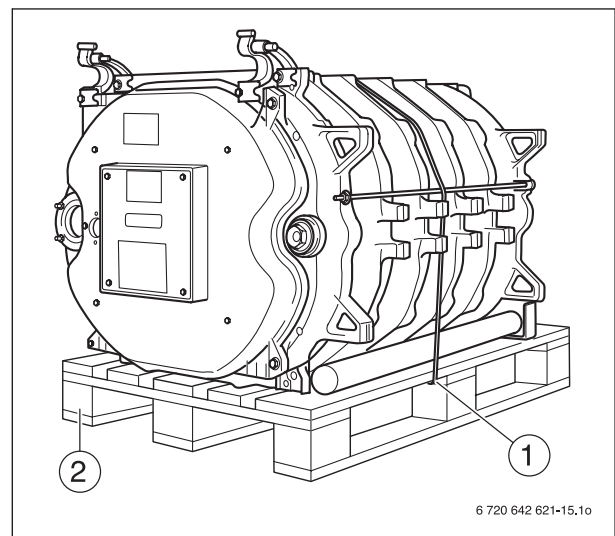

Fig. 20 Boiler block on pallet
- Cut the retaining band (Fig. 20, [1]).
- Remove the pallet prior to positioning the boiler block (Fig. 20, [2]).